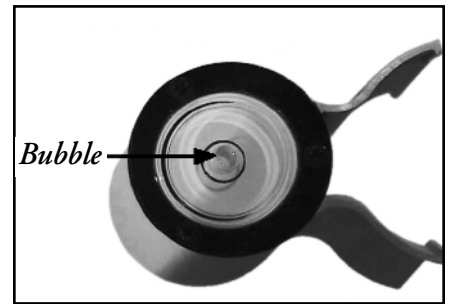

Figure 14
9. Before the Easytrack post tightens against the ceiling, check the clip-on level to make sure the bubble is in the center of the circle. Tilt the post until the bubble moves to the center of the circle (Figure 14).